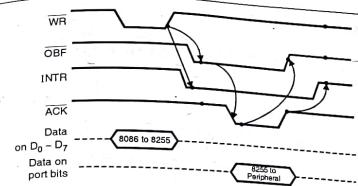

Fig. 16.5.9 : Timing diagram of mode 1 output mode
- (4) **INT_E (Interrupt enable)**
- The timing diagram of control signals in Mode 1 output mode is as shown in Fig 16.5.9.